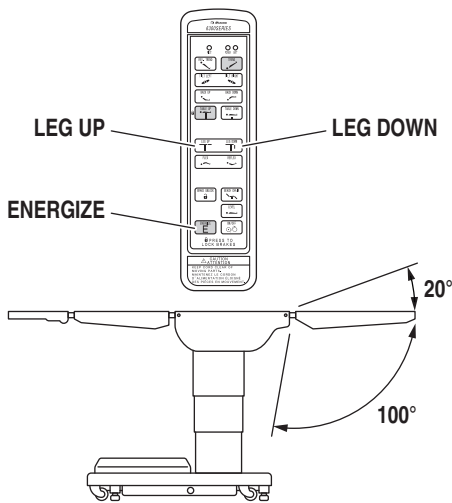

Figure 2-12. Leg Section Positioning
f. Leg Section To lower the leg section, press the ENERGIZE button and then the LEG DOWN button (figure 2-12). The leg section will go down to 100° below horizontal. To raise the leg section, press the ENERGIZE button and then the LEG UP button. The leg section will go up to 20° above horizontal.